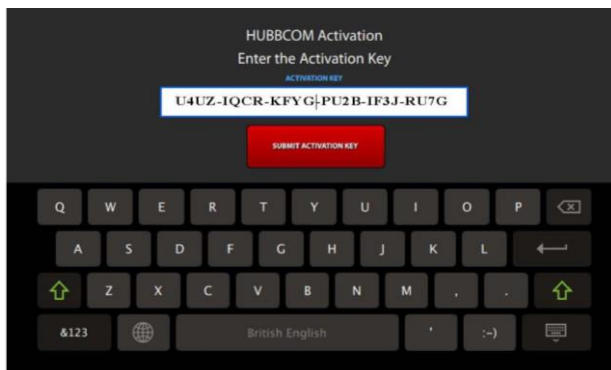

Figure 6. Device License Key Entered
4. Enter the device key provided on the smart controller's activation label (see Figure 5 and Figure 6).
5. Press the SUBMIT ACTIVATION KEY button on the screen (see Figure 6).